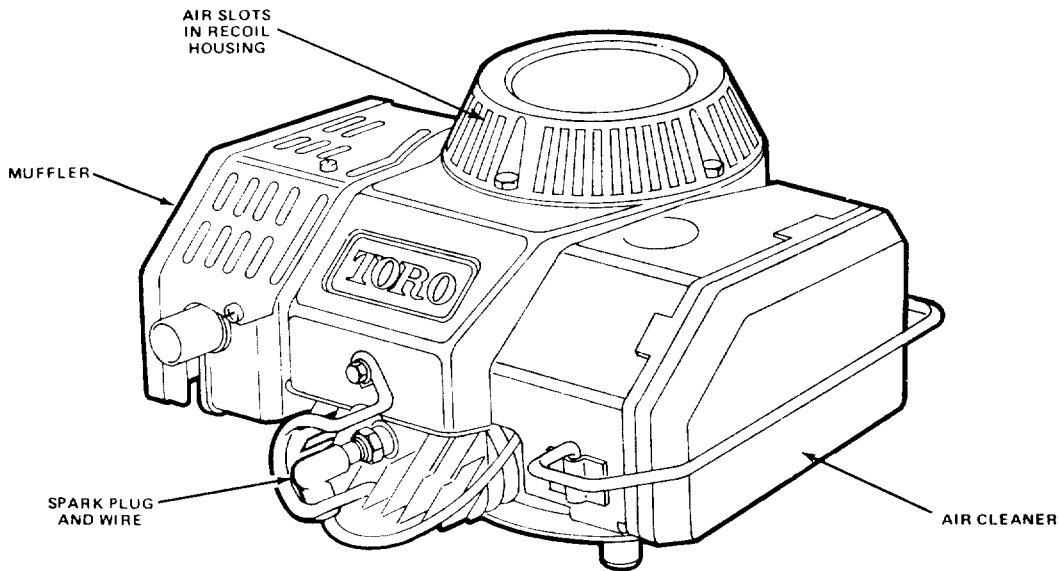

Figure 1
2. Attach wire to spark plug (Fig. 1).